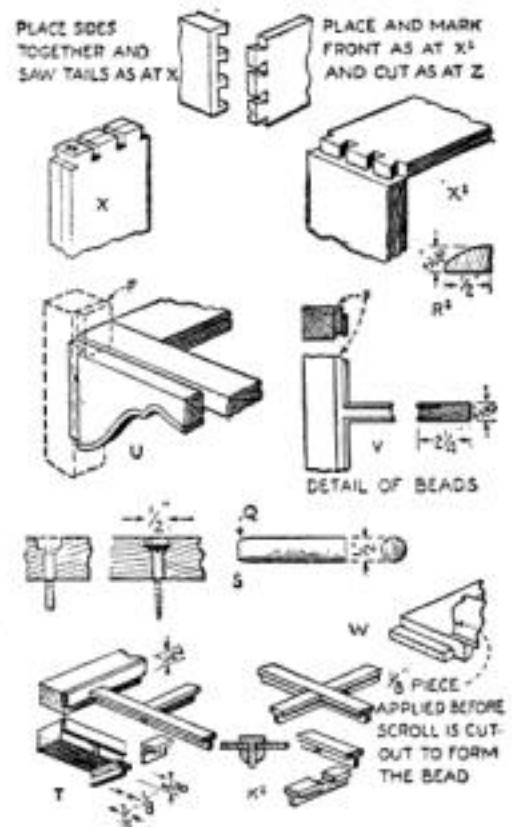

Fig. 5. Details of drawer dovetails, glass rails, beads, and plugs for screw holes
Twenty linear feet  $\frac{1}{8}$  by  $\frac{1}{8}$  in. rabbeted glass rails and muntins as shown in detail T, Fig. 5.
Fit the case top and fasten with dowels and plugged screws as at S, Fig. 5.
Three shelves,  $\frac{1}{2}$  by  $7\frac{3}{8}$  by  $20\frac{3}{4}$  in. Forty-eight linear inches  $\frac{1}{16}$  by  $\frac{1}{2}$ , not a quarter round but shaped like quarter of an ellipse as at detail R2, Fig. 5.
**FIFTY** linear feet of glass strips,  $\frac{1}{8}$  by  $\frac{1}{16}$  in., detail K1, Fig. 5. Stain the glass strips and give them one coat of shellac, on face only. Fit each glass space with strips, mitering the corners. Leave them in the space or number them. Cut and clean the glass, remove the strips, put the glass in the rabbet, touch the back of the strip lightly with glue, put it in place and hold it with weights, small clamps, or with the fingers, as there is not enough wood to allow even the smallest brads to be driven. The glass may be set with colored putty if preferred; in this case use very small pins or glazier's points to hold the glass.